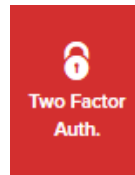

Figure 11. Partner Portal (Two Factor Auth. icon)
4. Click the **Two Factor Auth.** link on the left-hand side of the web page (Figure 11 \(page 39\)).